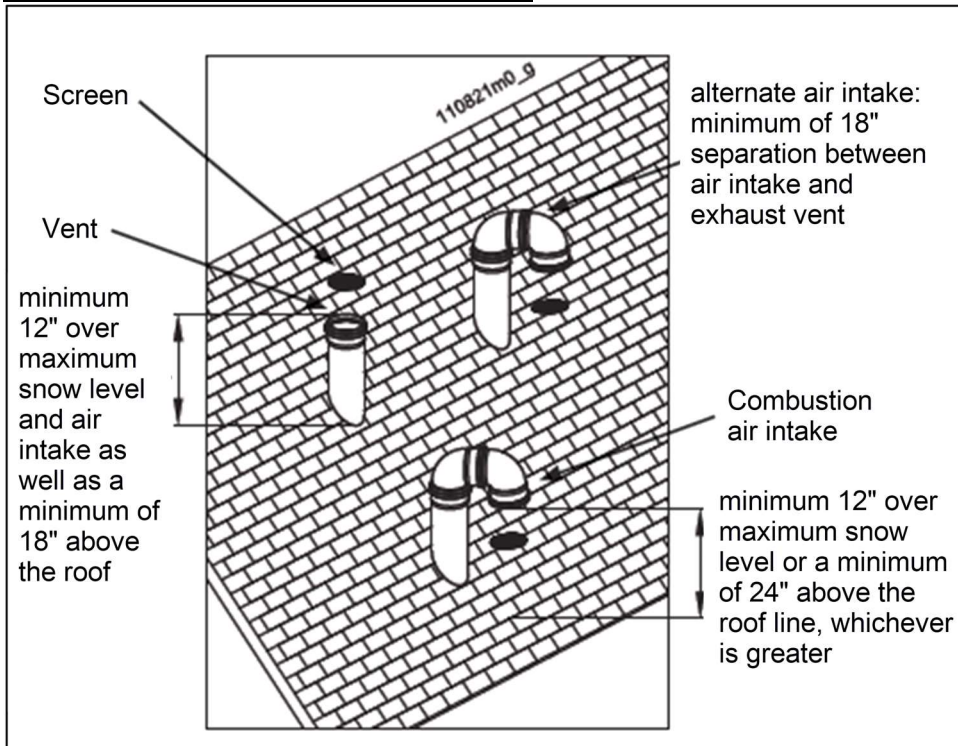
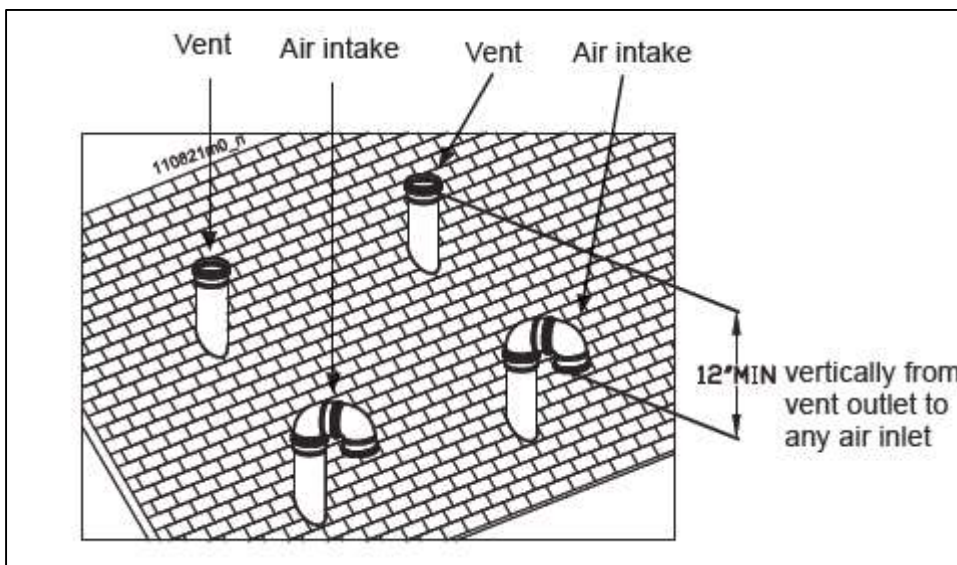

Figure 10.26
Figure 10.28
2. Prepare the vent termination and the air intake termination elbow (see Figure 10.26) by inserting bird screens.
4. The air intake piping must terminate in a down-turned 180° direction utilizing two elbows, see Figure 10.26.
6. Maintain the required dimensions of the finished termination piping as shown in Figure 10.26.
When two (2) or more direct vent appliances are vented near each other, each appliance must be individually vented (see Figure 10.26). NEVER common vent or breach vent this appliance. When two (2) or more direct vent appliances are vented near each other, two (2) vent terminations should be installed as shown in Figure 10.28. It is important that vent terminations be installed as shown to avoid recirculation of flue gases.